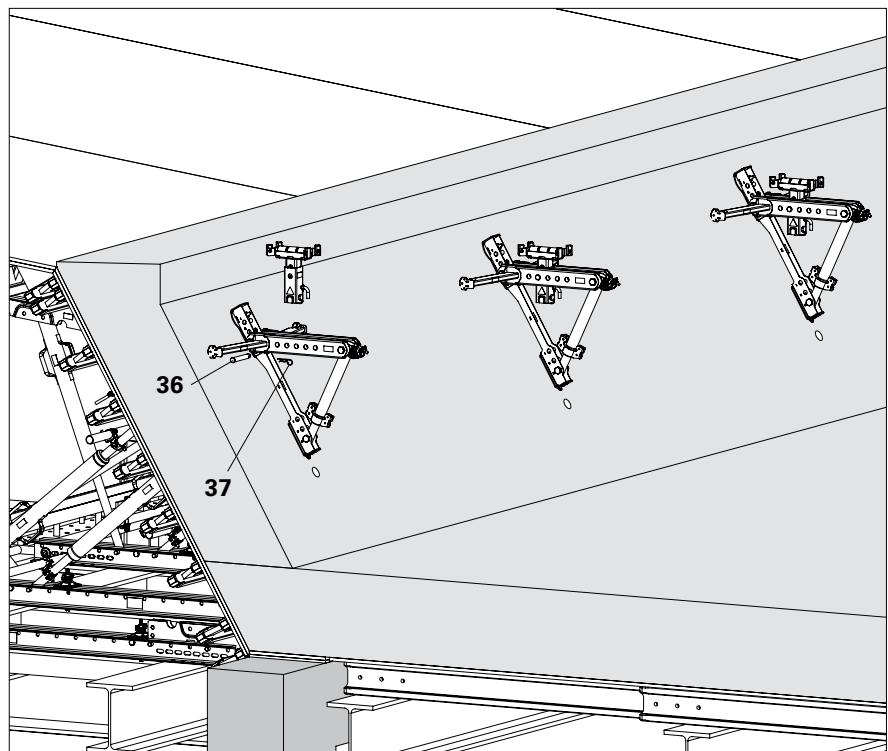
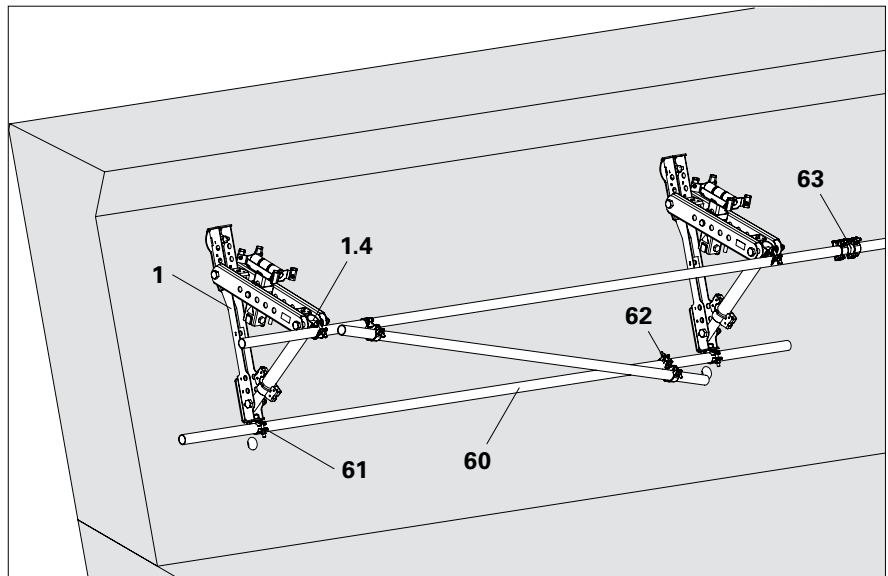

Fig. B3.06
Fig. B3.08
1. Connect all Wall Supports (1) to the Half-Couplers (1.4) with Scaffold Tubes (60).
2. Connect Scaffold Tubes with Tension Couplers (63).
3. Loosely attach Screw-On Couplings (61) to the first and last pair of Wall Supports, do not tighten yet. (Fig. B3.08)
4. On the first and last pair, horizontally mount an additional Scaffold Tube in the Screw-On Couplings (61).
5. Diagonally brace the first and last pair with another Scaffold Tube (60A). The diagonal Scaffold Tube is positioned in the direction the slab table is moved – from bottom to top. Connect Scaffold Tubes with Swivel Couplings (62).
6. Secure Screw-On Couplings (61). (Fig. B3.06)